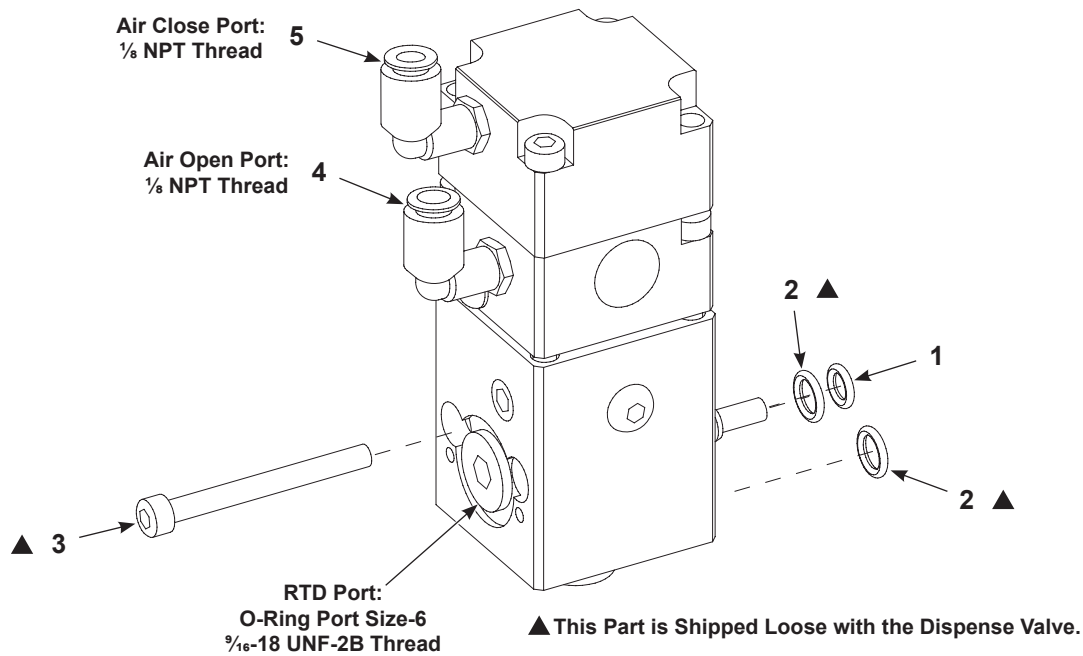

Figure 6 Manifold Mount Dispense Valve (*XD Manifold Mount Dispense Valve Shown*)
1. See Figure 6. Lubricate the O-rings (1,2) with Mobil SHC™ 100 grease and install them into the mating surface.
2. Install the dispense valve to the manifold using the screws (3). Tighten the screws to 60 in.-lb (6.7 N·m).